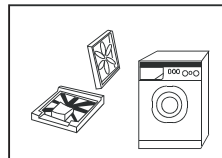

Fig 1
- As shown in figure1 remove all the packing materials.